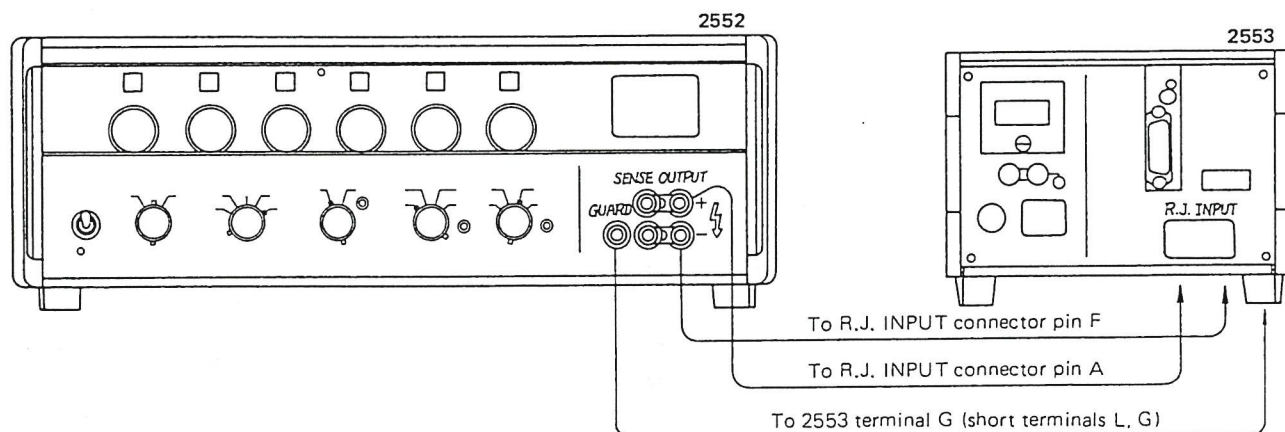

Figure 5-5. Setup for Calibration of R.J. TEMP Range.
- c) As shown in Figure 5-5, connect the calibration jig (described in "REFERENCE" in 2.4.2) to the R.J. INPUT connector on the rear panel of this instrument, and apply a DC voltage of -1 V between the terminal F ($-$ side) and A (COM side) of the connector.